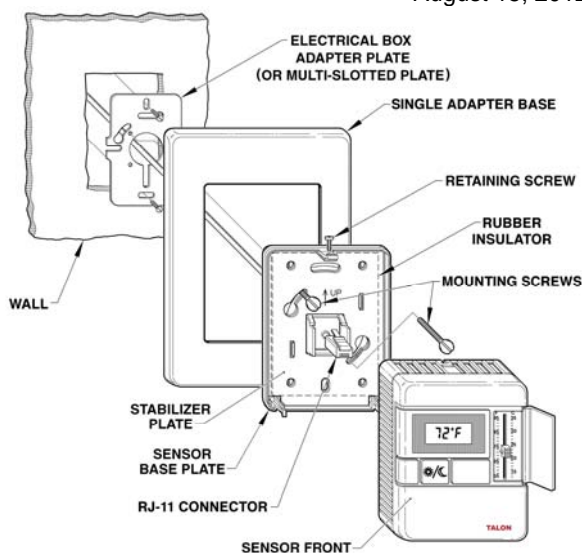

Figure 5. Electrical Box and Rough-in Mounting (Typical).
3. If you have a single-sensor electrical box, install the electrical box adapter plate. See Figure 5.
If you use a universal adapter kit for a retrofit job, install the multi-slotted plate in place of the electrical box adapter plate. See Figure 5.